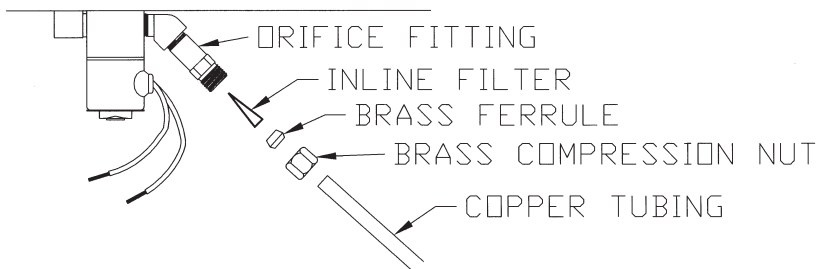

FIGURE 16: Waterline Connection for Model 55
- 1) For **Model 55**, connect the waterline as shown in Figure 16, below.